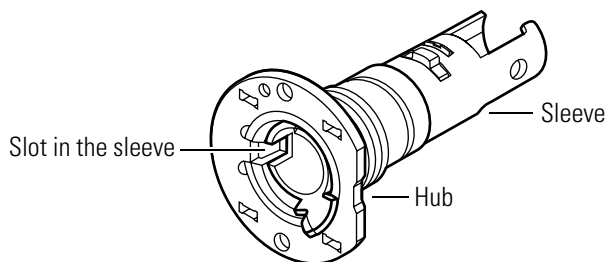

Figure 3.24 Positioning the sleeve
4. Align the sleeve so that the deep slot in the sleeve lines up with the slot in the hub, as shown in Figure 3.24.